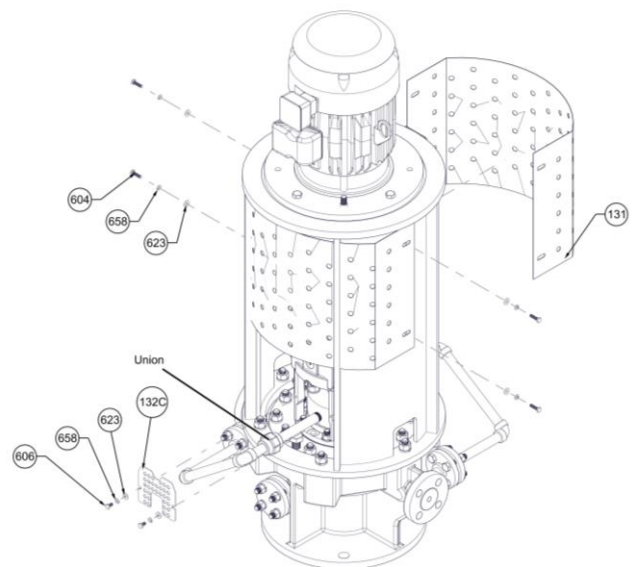

Figure 6. Guard Removal
3. Refer to Figure 6. Remove capscrews (604), flatwasher (623) and lockwasher (658) and remove coupling guard (131). Remove capscrews (606), flatwasher (623) and lockwasher (658) and remove seal guard (132C).
4. Drain casing (1) by removing hex nuts (620), and lockwashers (653) from capscrews (607) on casing drain blind flange (524). If necessary, flush pump to remove corrosive or toxic pumpage. Close casing drain blind flange when fluid is completely drained and reinstall hex nuts and lockwashers onto capscrews. Collect and dispose of corrosive or toxic material appropriately.
5. Remove hex nuts (620) and lockwashers (653) from capscrews (607) on the flange of the seal piping plan (254). Loosen the union, refer to Figure 6, and remove the seal piping.
7. Disconnect coupling (42) halves. Remove coupling spacer between coupling halves.
8. Install centering tabs on mechanical seal cartridge (90) to keep mechanical seal gland in position.
9. Remove hex nuts (616) and lockwashers (655) from studs (631) fastening backhead (11) to casing (1).
10. Use forcing bolts (610) to loosen rabbet fit of backhead (11) and casing (1). Using the lifting bales (450A and 450B) lift the rotating element of the pump up and away from the casing through the frame adaptor (71) and take it to a suitable work area, refer to Section VII, Paragraph B for handling of pump.